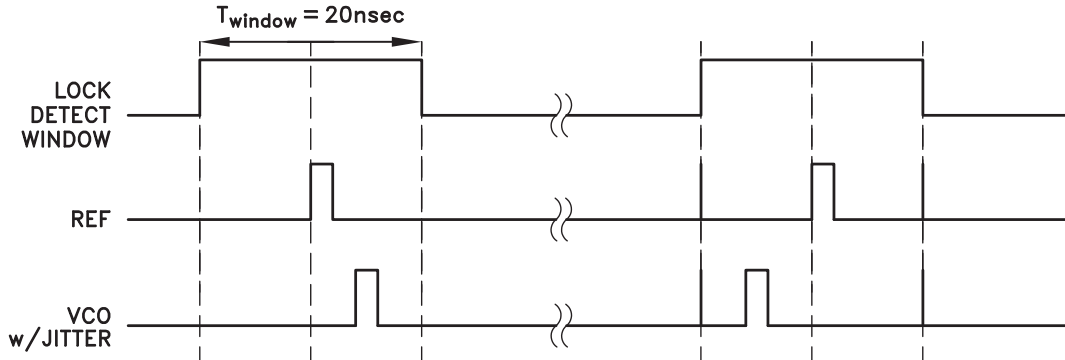

Figure 11. Normal Lock Detect Window
The Lock Detect circuit in the HMC700LP4(E) places a one shot window around the reference. The one shot window may be generated by either an analog one shot circuit or a digital one shot based upon an internal ring oscillator. Clearing *ringosc\_oneshot\_sel* (Table 14) will result in a fixed analog based nominal  $\pm 10$  nsec window, as shown in Figure 11. Setting *ringosc\_oneshot\_sel* will result in a variable length window based upon a high frequency internal ring oscillator. The ring oscillator frequency is controlled by *ringosc\_cfg*. The resulting lock detect window period is then generated by the number of ring oscillator periods defined in *oneshot\_duration*, both in (Table 14).
The Lock Detect Flag is output to LD\_SDO pin according to *pdf\_LD\_opEn* or to the internal SPI read only register if *locked* = 1 (Table 21). Setting *pdf\_LD\_opEn* will display the Lock Detect Flag on LD\_SDO except when a serial port read is requested, in which case the pin reverts temporarily to the Serial Data Out pin, and returns to the Lock Detect Flag after the read is completed. Timing of the Lock Detect and Serial Data Out functions are shown in Figure 11.